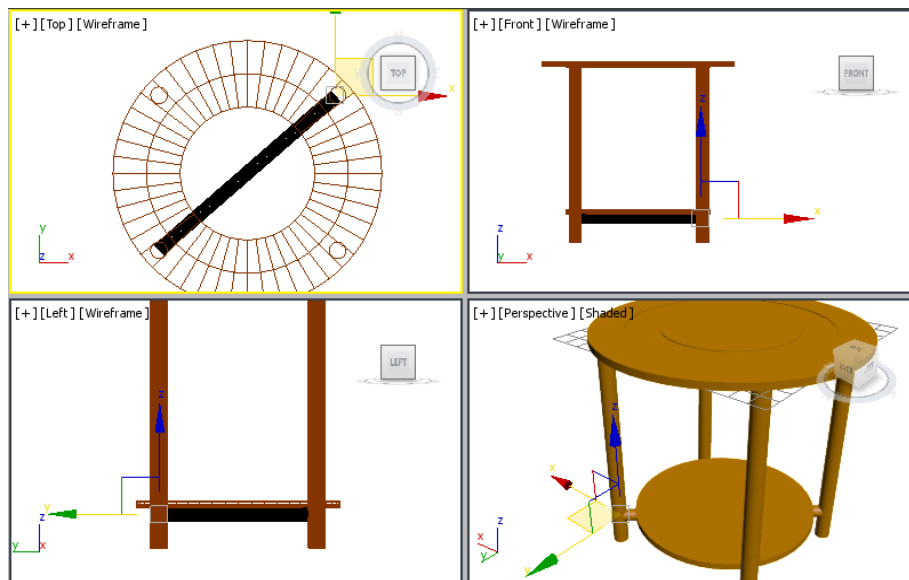

Figure 2-57 Alignment of support01 in viewports
6. Align *support01* using the **Select and Move** and **Select and Rotate** tools from the **Main Toolbar**, as shown in Figure 2-57.